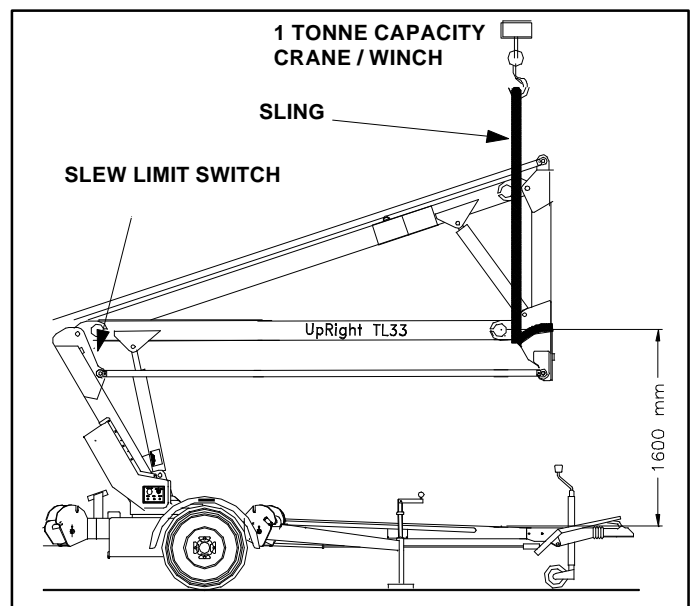

Figure 4-4: Supporting the Elevating Assembly
4.6 Maintenance on Elevating Assembly (Figure 4-4)